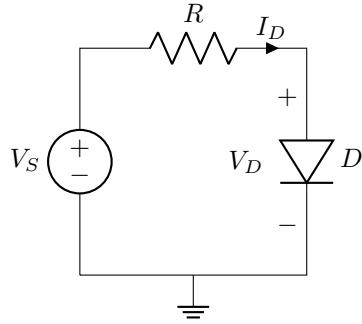

Figure 1: Forward-bias pn junction I–V characteristic measurement circuit.
In this portion of the experiment, you will measure the forward-bias current-voltage characteristics of a silicon diode. Begin by constructing the circuit shown in Figure 1 on your breadboard using the small-signal silicon diode and the $1\text{ k}\Omega$ resistor. Ensure that the diode is oriented correctly with the anode connected toward the positive supply terminal and the cathode toward ground. Connect one DMM across the diode terminals to measure the diode voltage V_D directly. To measure the current through the diode I_D , you have two options: either connect the second DMM in series with the circuit (being careful to observe the current measurement limits of your meter), or measure the voltage across the resistor and calculate the current using Ohm's law ($I_D = V_R/R$). The second method is often preferred as it avoids potential issues with meter burden voltage.
2. For the circuit in Figure 1, assume $V_S = 5$ V, $R = 1 \text{ k}\Omega$, and the diode forward voltage is 0.7 V when conducting. Calculate (a) the voltage across the resistor, (b) the current through the diode, and (c) the power dissipated by the diode. Show all calculations.